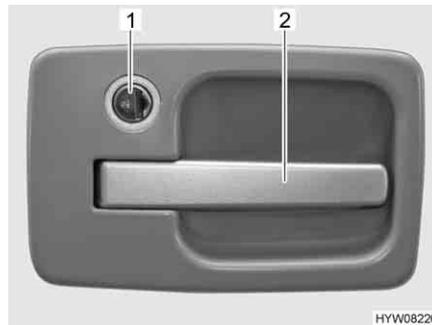

Fig. 23 Door lock, conversion door, outside
- Insert the key into locking cylinder (Fig. 23,1) and turn until the door lock is unlatched.
- Pull on the handle (Fig. 23,2). The door is open.
- Insert the key into locking cylinder (Fig. 23,1) and turn until the door lock is engaged.